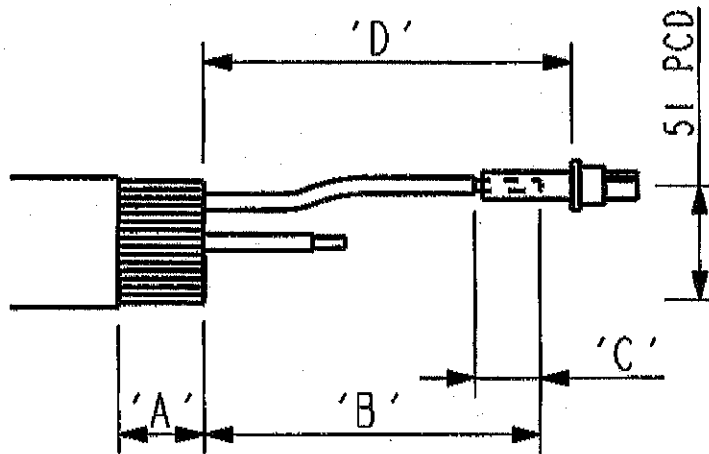

Fig 2
- 1b) Straighten the cable cores out and reform to position conductors on a 51mm P.C.D. as shown in Fig.2
- 3e) Check dimension 'D' shown in Figure 2. Line up one of the flats on contact tubes **(8)** with location flats on insulator **(5)** mark tube position on conductor insulation.